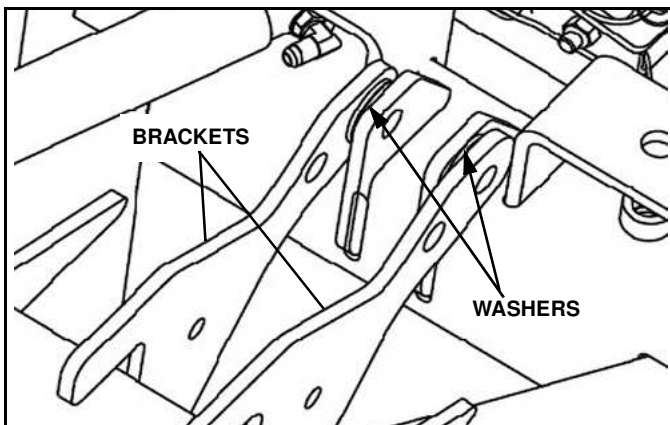

Figure 1-19
- f. Position two lift brackets (p/n 96112622) and four washers as shown. (See Figure 1-19).